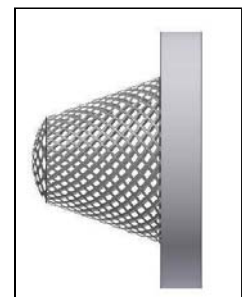
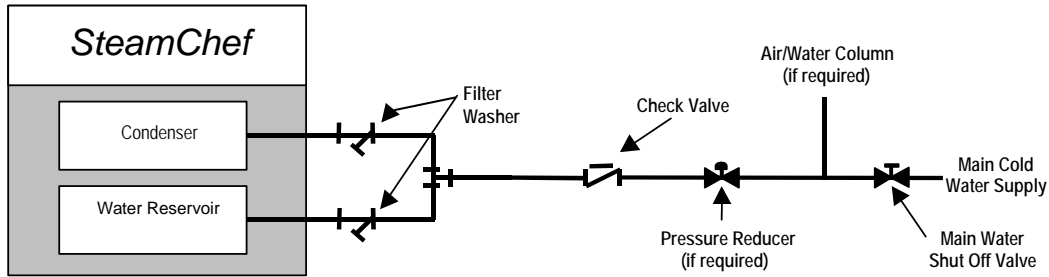
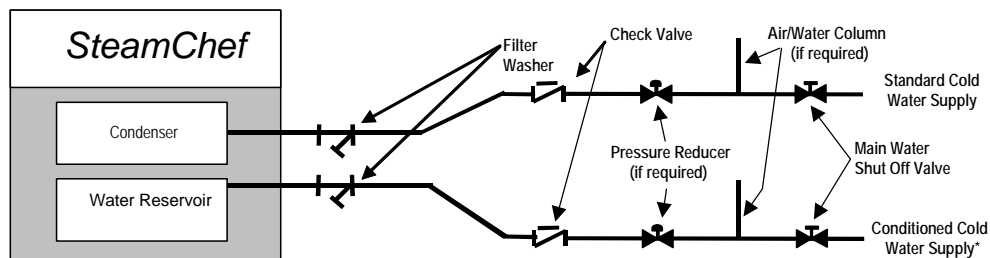

Figure 3-4
Figure 3-5 Cleveland Range Single Water Supply Arrangement
Figure 3-6 Cleveland Range Separate Water Supply Arrangement
- d. If the water supply meets requirements shown in the Warranty then the Single Water Supply Arrangement shown in Figure 3-5 may be used.
- e. If the water supply fails to meet the requirements shown in the Warranty then use the Separate Water Supply Arrangement shown in Figure 3-6.
- 5) Cleveland Range recommends the plumbing layout in either Figure 3-5 for installations using a single water supply or Figure 3-6 if a separate conditioned water supply is used for the steam generator reservoir feed.
- Use two (2) 3/8" supply lines for a separate conditioned water supply. See Figure
- Use one (1) 1/2" supply line for a single water supply. Use the Single Point Water Connection Kit (cold water supply splitter) (P/N 111009).
- 9) A Filter Washer is supplied installed in each of the water inlets of this SteamChef (See Figure 3-4, Cleveland Range Part Number 110987.)
11. Refer to Figure 3-5: Connect the drain as described: